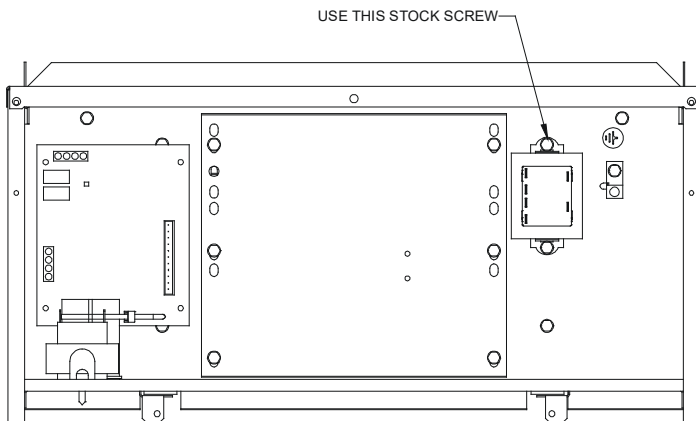

Figure 27
Remove the screw located on the control deck that is shown in Figure 27 and affix the PCB transformer with the removed screw and a screw hole. Then secure another screw hole of the PCB transformer using (1) field supplied, self-drilling screw.